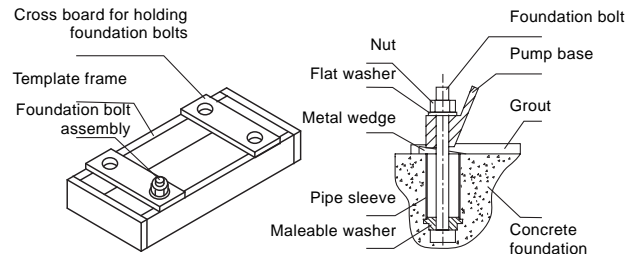

Fig. 3 Typical foundation with base plate
3. Build a dam on the foundation, enclosing an area around the base plate that includes all alignment wedges. Allow for a grout thickness of 0.75 to 1.50" thickness [19.05 mm to 38.1 mm]. See fig. 3.